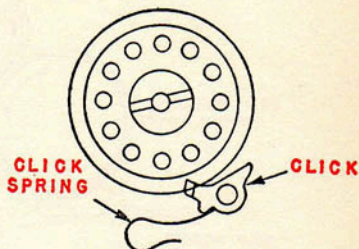

FIG. 13
11. Remove click and click spring. See Fig. 13.